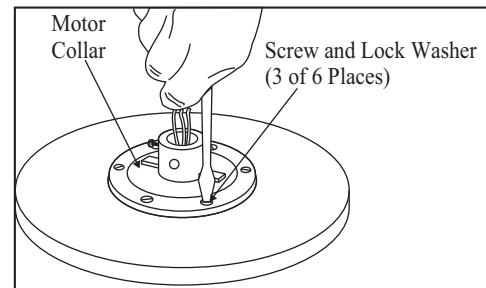

Figure 9
4. Remove three of the six screws and lock washers (every other one) from the collar of top motor. (Figure 9).